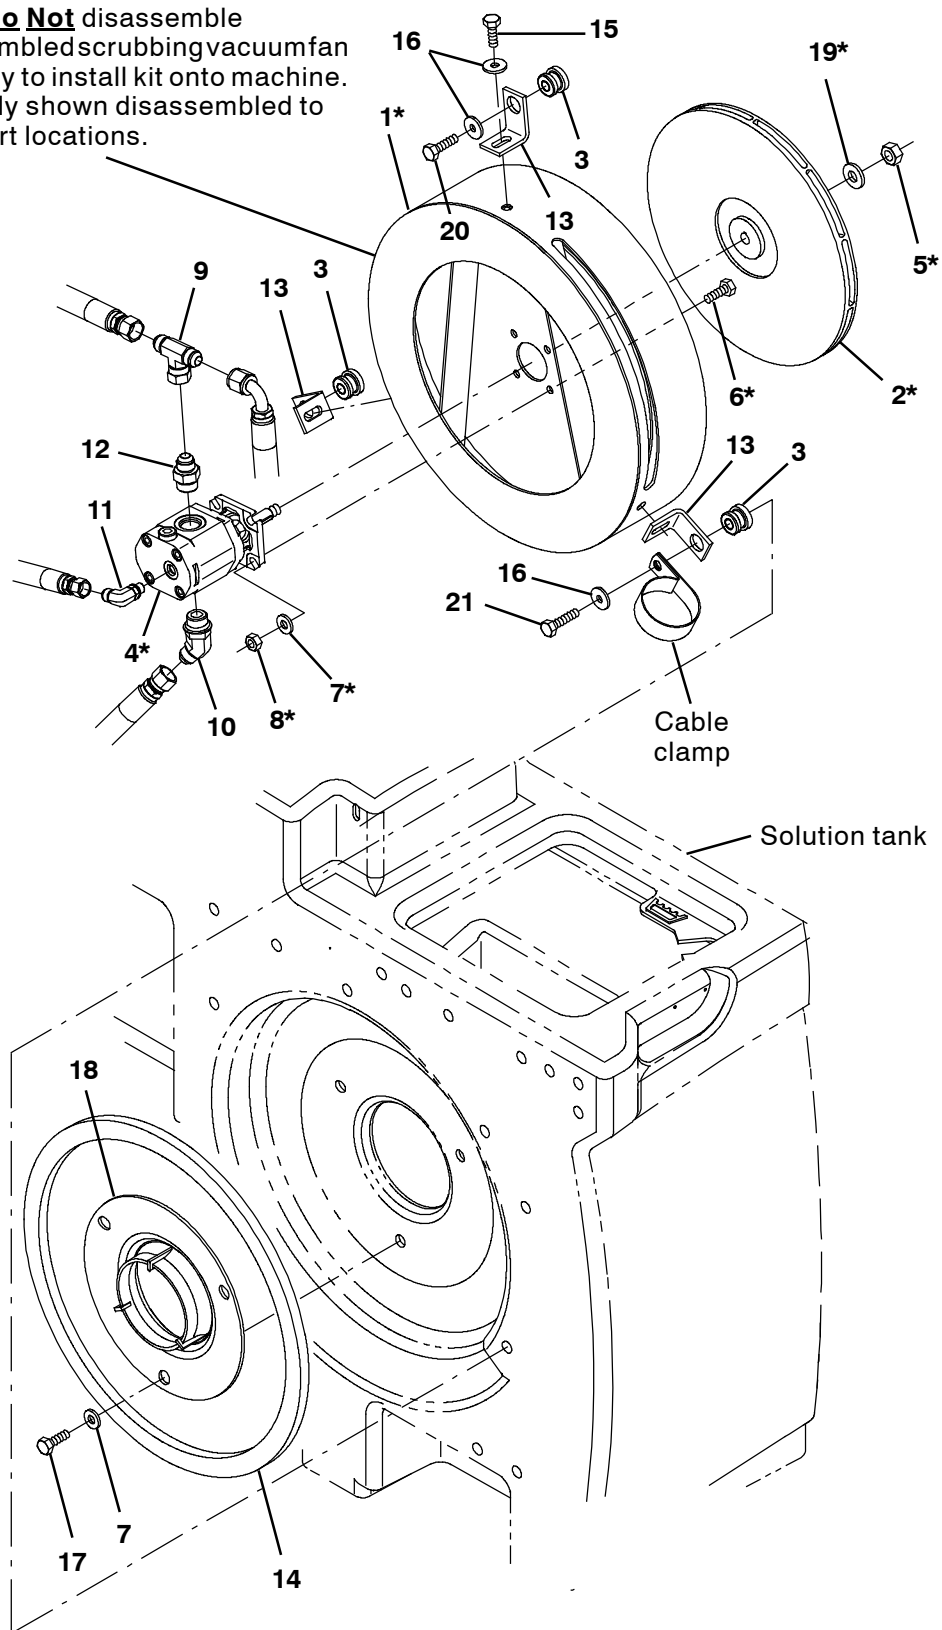

FIG. 11
9. Use three M8 hex screws (17) and three flat washers (7) to install the fan discharge housing (19) onto the solution tank. (Fig. 11)
14. Use an M8 hex screw (15) and flat washer (16) to install each of the three fan support angles (13) onto the scrubbing vacuum fan assembly. Do not completely tighten hardware. Hardware is tightened in later adjustment. (Fig. 11)
15. Hold the scrubbing vacuum fan assembly up onto the solution tank and use two M8 hex screws (20), two flat washers (16), and two vibration isolator bushings (3) to install the scrubbing vacuum fan assembly onto the solution tank. (Fig. 11)
16. Use an M8 hex screws (21), flat washer (16), and vibration isolator bushing (3) to install the saved cable clamp and the scrubbing vacuum fan assembly onto the solution tank. (Fig. 11)
17. Tighten all hardware to fully secure the three fan support angles (13) to the scrubbing vacuum fan assembly. (Fig. 11)